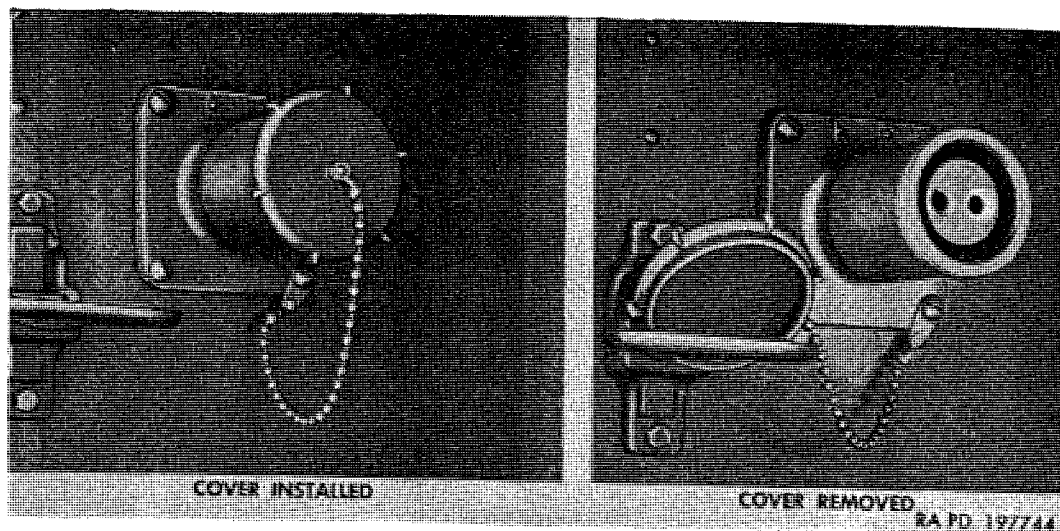

Figure 69. Power entrance receptacle.
(1) Outside source of 115-volt ac power must be plugged into the power entrance receptacle (fig. 69) located on upper